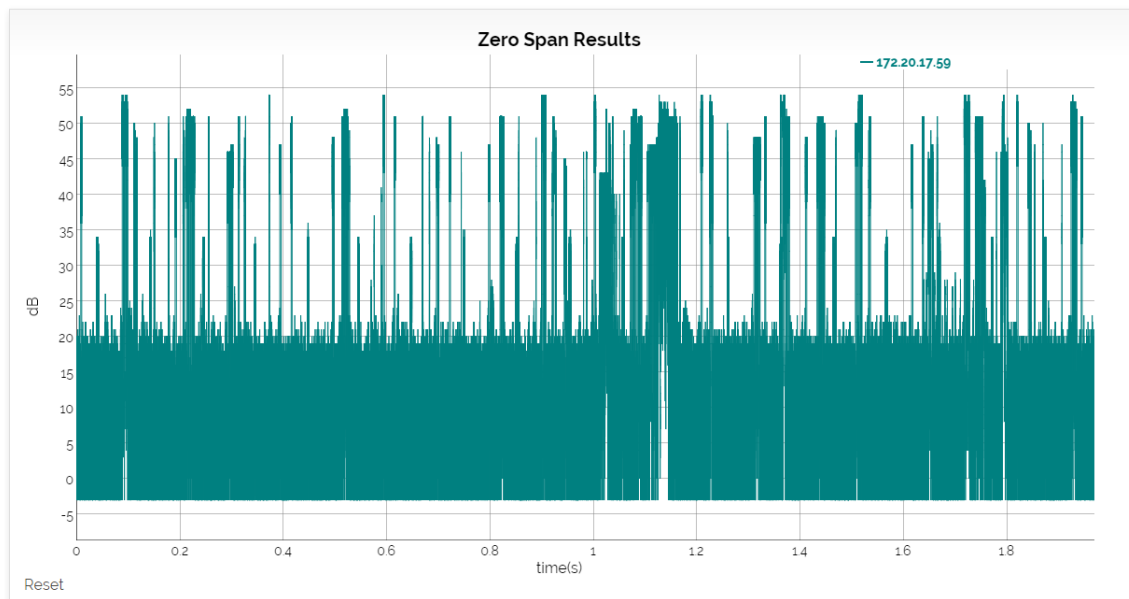

Figure 44 Zero Span Results
**Mode** – Set to Spectrum Scan or Zero Span. Spectrum Scan mode provides plots of signal strength over frequency. Zero Span provides a plot of power over time in a 20MHz Bandwidth (see **Figure 44 Zero Span Results** below).
Silvus’ StreamScape Network Management Utility was designed to monitor the status of a Silvus mesh network in real-time. The graphical interface network map, shown in **Figure 44**, allows users to quickly and effortlessly view the network topology and configure key parameters of the network. For ease of use, the Silvus StreamScape utility is designed to be accessible from a Firefox or Chrome web browser.